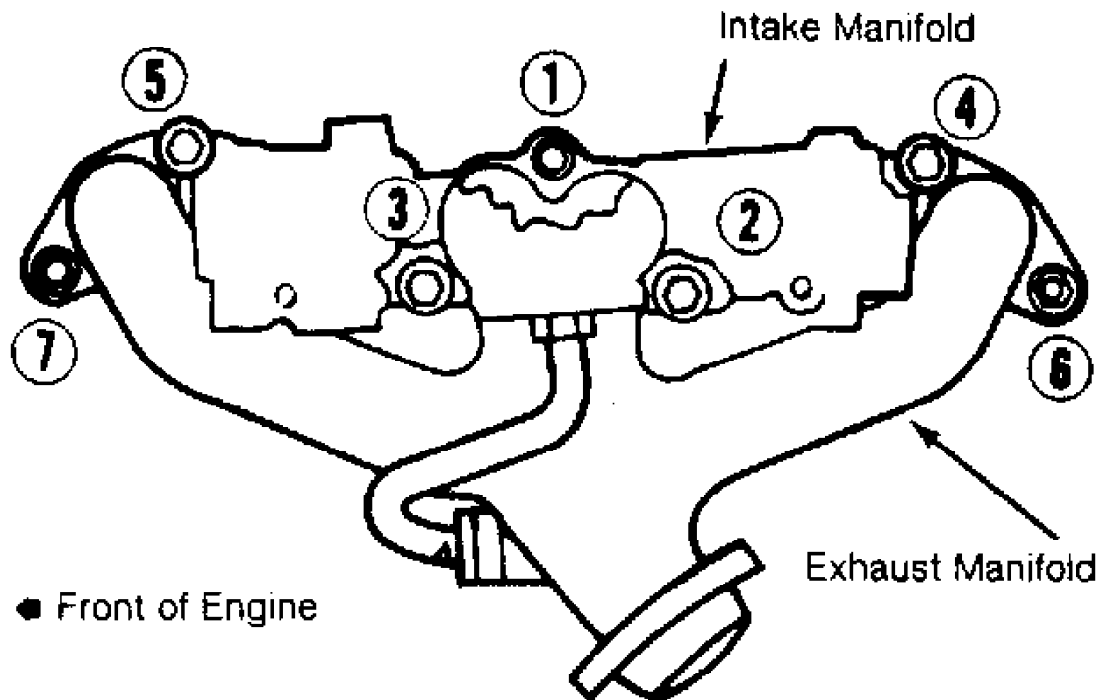

Fig. 2: Intake & Exhaust Manifold Bolt Tightening Sequence
4) Remove bolts No. 2 through 5 securing intake manifold to cylinder head. See Fig. 2. Slightly loosen bolt No. 1 and nuts No. 6 and 7. Remove intake manifold. Drain coolant from manifold.
manifold. Finger tighten all bolts. Tighten intake manifold bolts to specification in correct sequence. See Fig. 2. Also see TORQUE SPECIFICATIONS table. To complete installation, reverse removal procedure. Fill and bleed cooling system.
1) Clean all gasket surfaces. Install intake and exhaust manifolds together, using NEW gasket. Ensure exhaust manifold is centrally located over end studs and spacer. Tighten bolt No. 1 to specification. See TORQUE SPECIFICATIONS table. Tighten bolts No. 2 through 5 to specification in sequence. See Fig. 2.